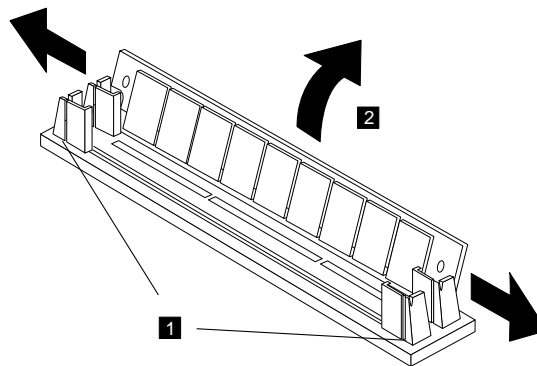

FIG. 3.8 Removing a SIMM or DIMM.
2. Rotate or pull the SIMM or DIMM up and out of the socket (see Figure 3.8).